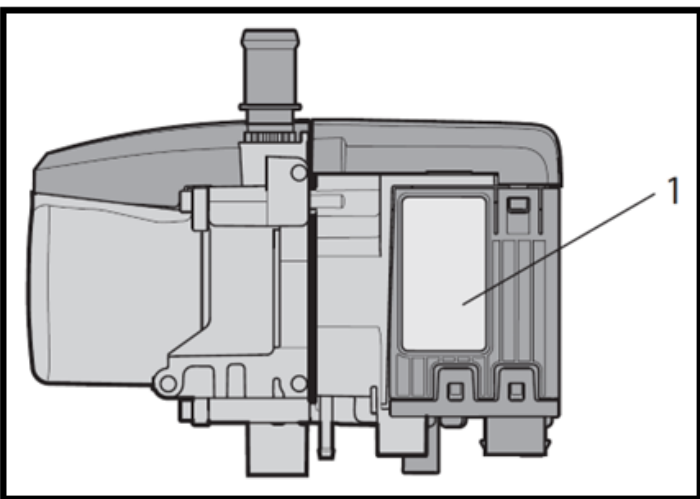

Figure 2: Hydronic S3 Heater (GEN 3) Nameplate Location
- The nameplate on the side of the heater can be used to identify the model and version type of the heater. (**Figure 2**).